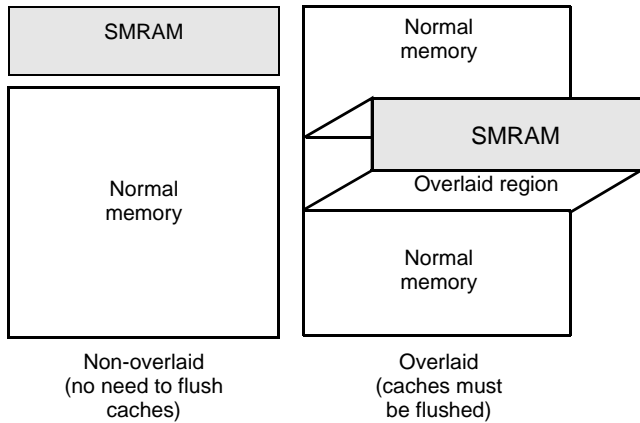

Figure 14. SMRAM Location
- To implement a 0-V suspend function, the system must have access to all normal system memory from within an SMI handler routine. If the SMRAM overlays normal system memory (see Figure 14), there must be a method to access overlaid system memory independently.